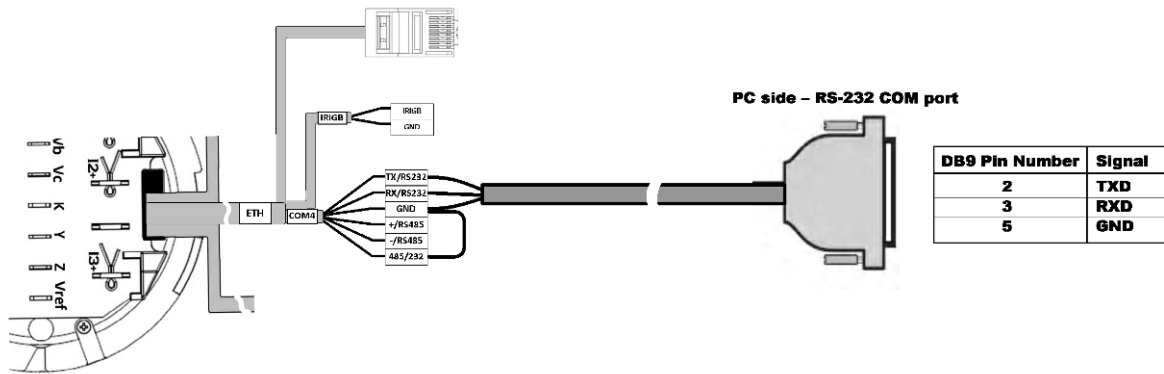

Figure 28: Serial Communication Connection - RS-232 COM4
In the RS-232 mode, the 485/232 wire must be tied to GND wire as shown in figure 28
- 2) Lift the Name-plate where indicated, as shown in figure 28 below